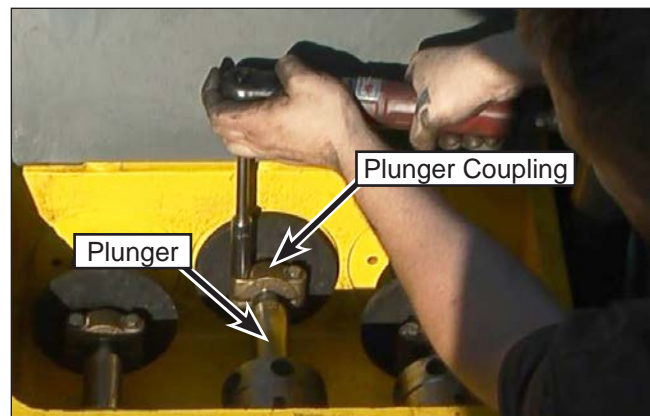

Figure 132: Plunger Coupling Removal.
2. Open the rod box cover and remove the two capscrews that secure the plunger coupling (Figure 132) to the plunger and remove the coupling.